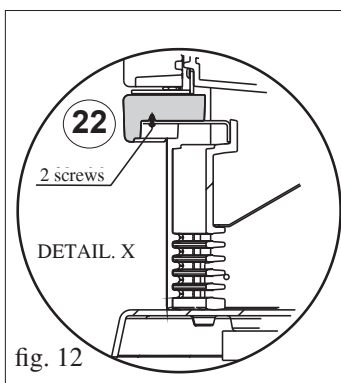

fig. 12
- Use the supplied Allen key to loosen the screws that hold the cast iron lower front grill (43) in place and remove it.
- Position the front panel (22) and use an Allen key to fasten it in place using the 2 supplied M6x25 screws as indicated in detail "X" (fig. 12).